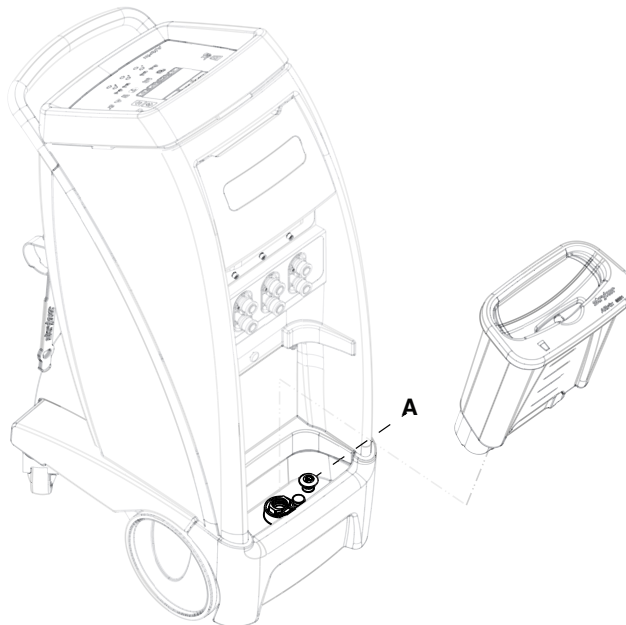

Figure 22 – Drain plug
2. Remove the reservoir and pull up on the controller drain plug (A) to open the drain (Figure 22).